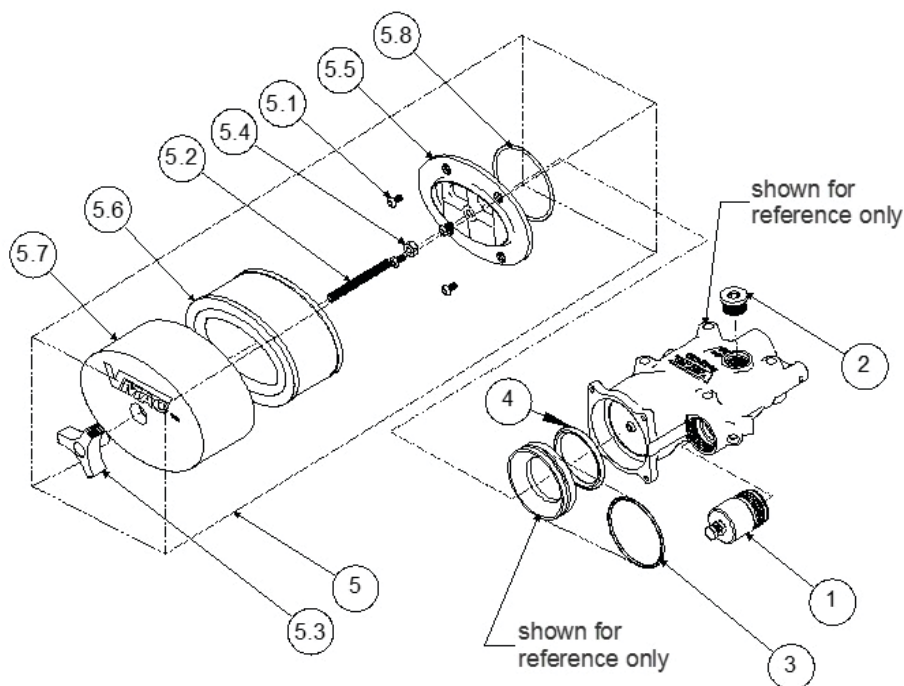

Figure 93 — Inlet Valve Sub Components
3. Inlet Valve Sub Components, 9200570 (Figure 93)